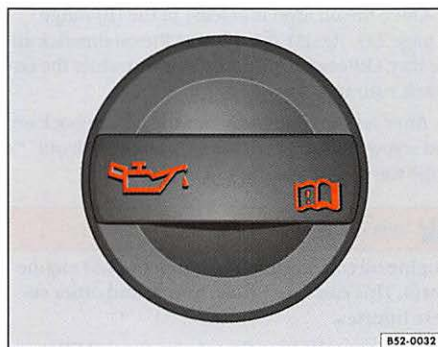

Fig. 152 In the engine compartment: Engine oil filler cap.
- The engine oil filler cap is marked with the  symbol $\Rightarrow$ fig. 152. The oil dipstick has a colored handle.
- Unscrew the cap of the engine oil filler opening $\Rightarrow$ fig. 152 from the cylinder head cover. If you are not sure where it is, contact your authorized Volkswagen dealer or authorized Volkswagen Service Facility.
- Check the oil level again before adding more oil. Never add too much oil ⇒ ①.